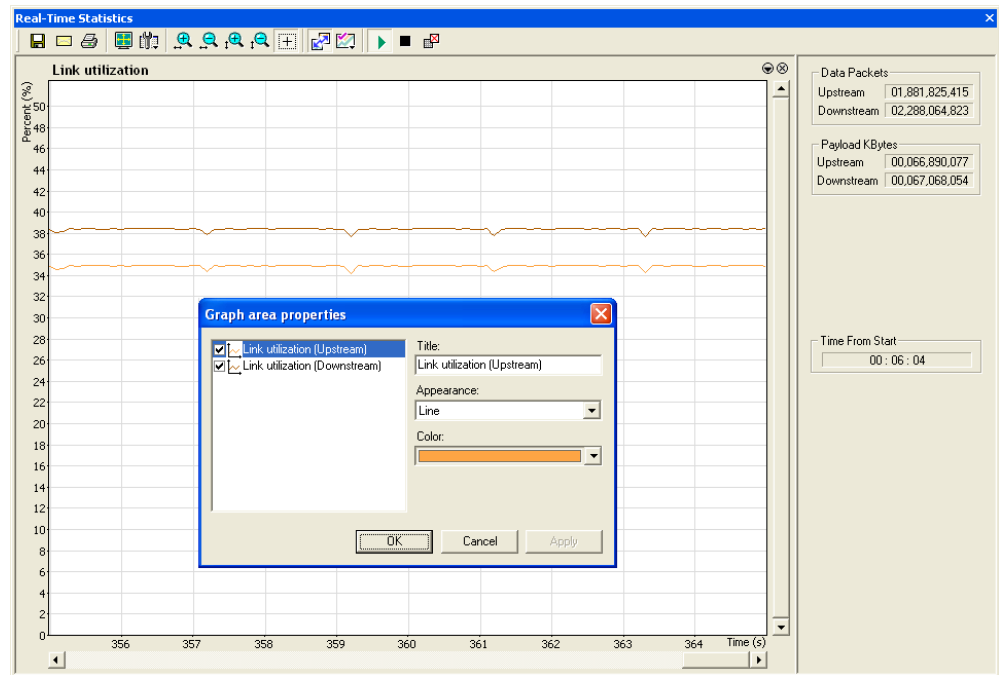

Figure 11 LeCroy PETracer Real-Time Statistics Screen
9. Open up Real Time Statistics. A graph will be displayed showing real time link utilization (see Figure 11). The link utilization for both the upstream and downstream directions should be less than 1% each.
- Once the Iometer is running, observe Link Utilization using the LeCroy PETracer. It should be a consistent 35% - 40% for both upstream and downstream traffic (as viewed by the upstream port of the Switch Evaluation Board). This is illustrated in Figure 11.